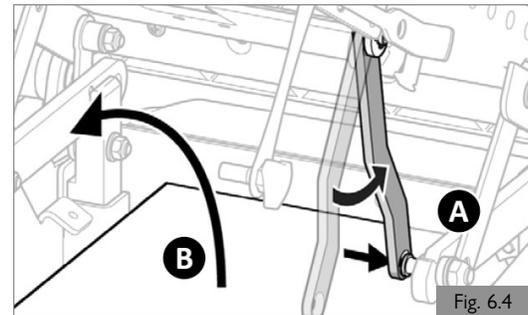

Fig. 6.4
4. Once secured (Fig.6.4 - A), lift off the battery box lid (Fig. 6.4 - B).